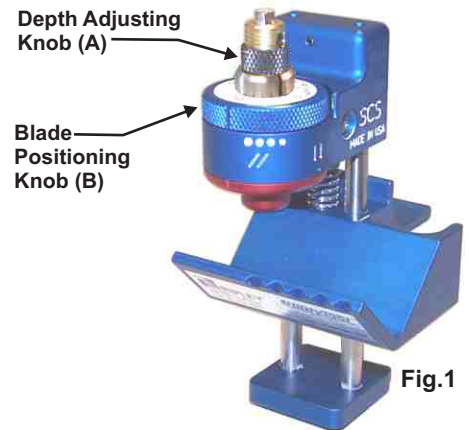
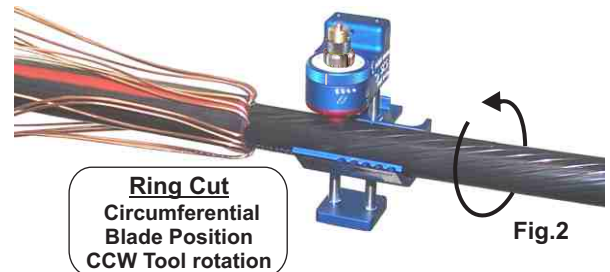

Fig.1
Fig.2
2. Ring cut: (Fig.2) Observe the blade position mark on the blade position knob **B**. Rotate the knob fully to the left. The tool is in the ring cut position when the mark is facing forward. (See Fig 1 and 2). Lower the jaw to open the tool and secure the tool on the cable at the termination point of the semi-con, as described in the preparation instructions. Rotate the tool 1 full turn counter clockwise around the circumference of the cable for a ring cut. If room allows, the use of the SCS-C stop clamp on the cable will help ensure a square cut is made.